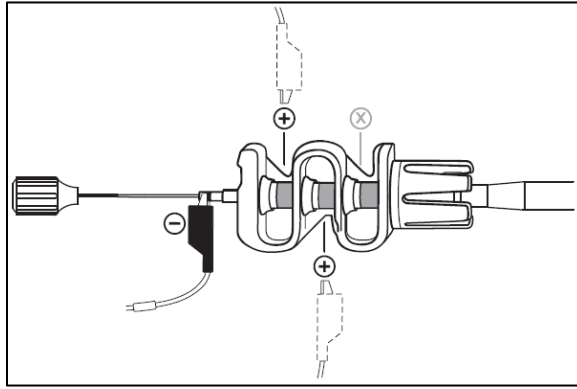

Figure 4. Connection Diagram for Defibrillation Leads, type DF4
1. Connect the black (-) clip to the connector pin (Figure 4).
2. Connect the corresponding red (+) clip to the desired ring (Figure 4).